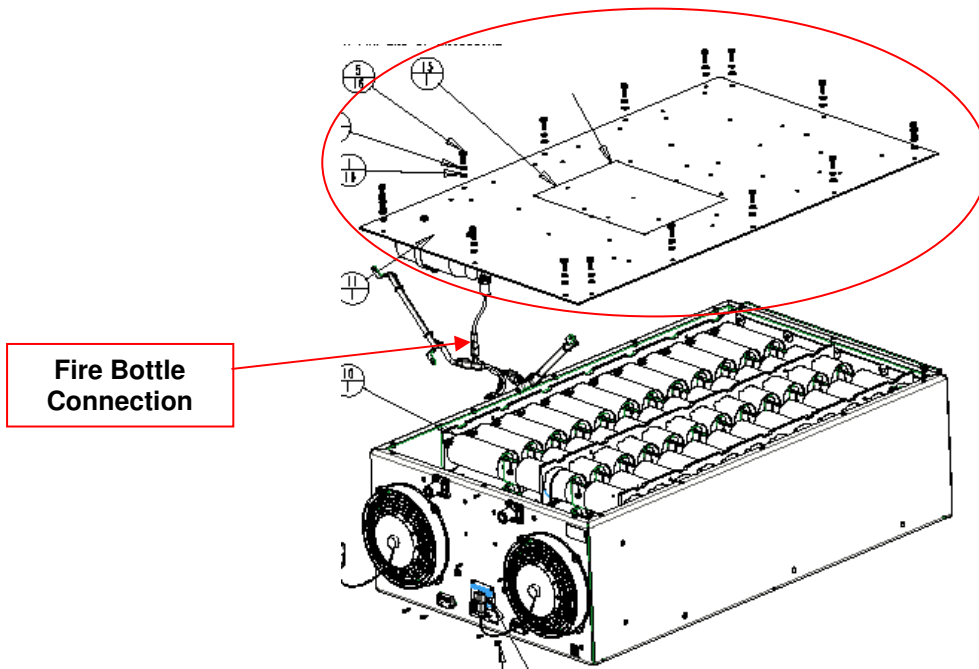

Fig 7 – UCAP Lid
- a. Remove any protective covers to access all existing perimeter hardware (16x screws, washers, and lock washers per UCAP) securing the UCAP lid to UCAP box (Fig 7). Remove fire bottle connection.